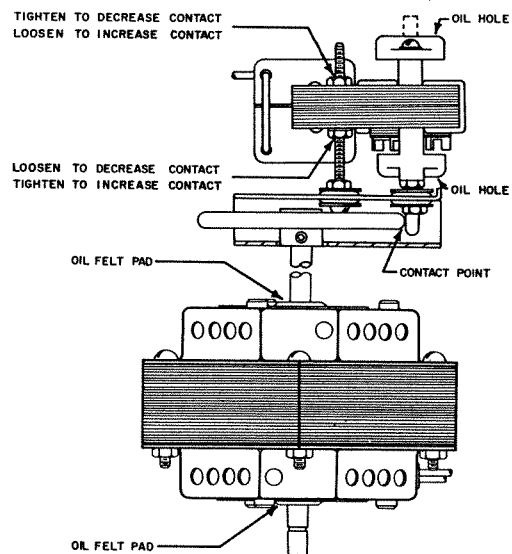

FIGURE 5
3. With the small motor ON, turn the adjusting nuts so that the small motor is completely disengaged with the rubber-tired drive pulley. (See Fig. 5).